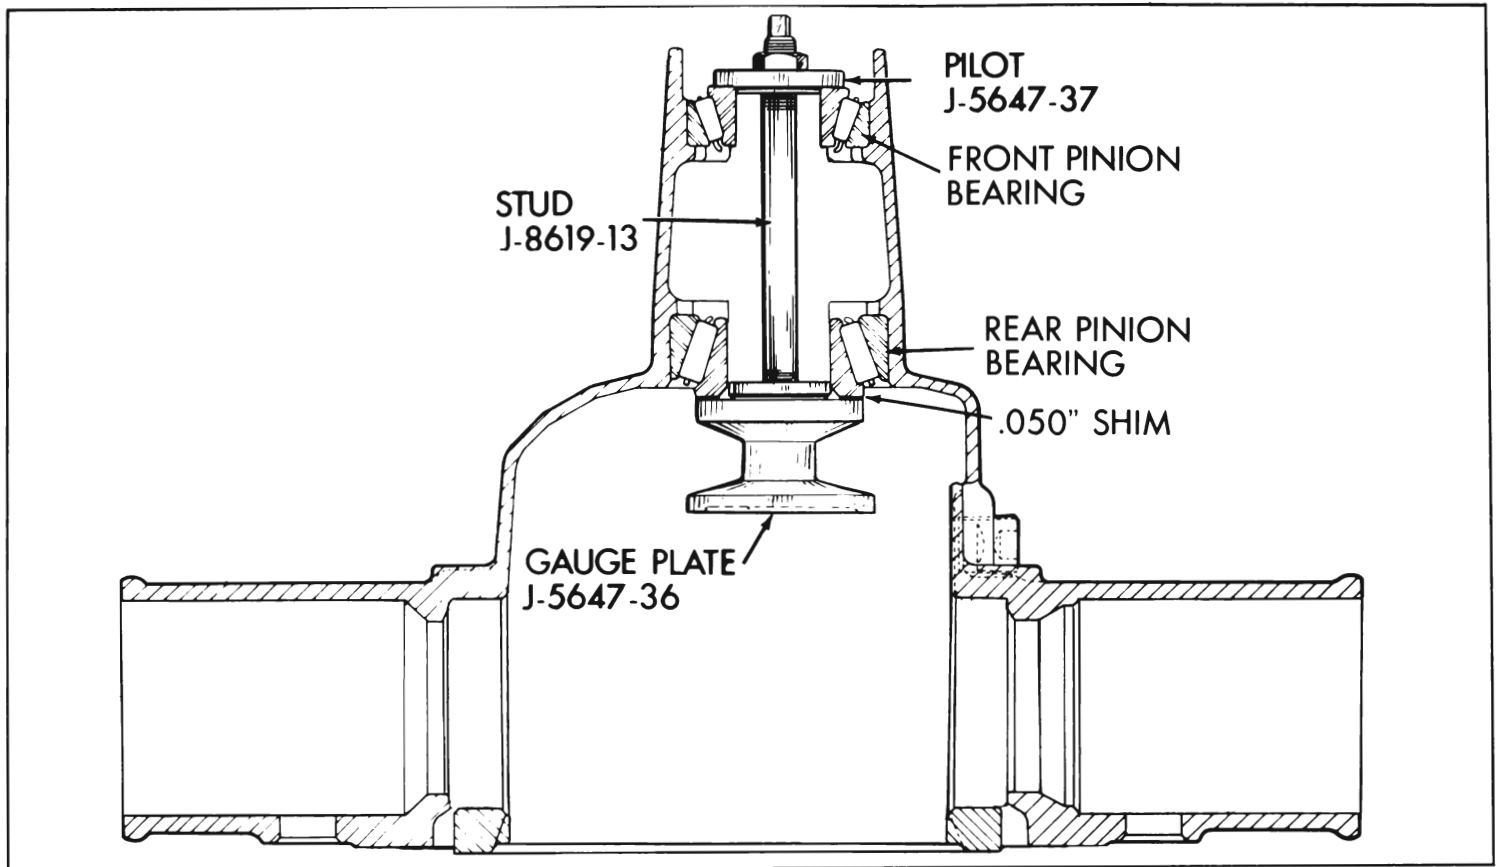

Fig. 6-66—Installing Gauge Plate in Carrier
6. Lubricate front and rear pinion bearings which will be used in final reassembly, and position them in their respective races in the carrier. With bearings held in place in races, install a 50 thousandths shim and Gauge Plate J-5647-36 on rear pinion bearing inner race. Install Pilot J-5647-37 on front pinion bearing with small diameter raised portion inside bearing race. Insert Stud J-8619-13 through pilot, and thread it into the gauge plate. See Figure 6-66.